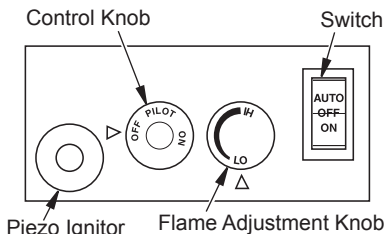

Figure 18 - Control Knob and Ignitor Button Location, Manual Controlled
4. Press in and turn control knob clockwise to the OFF position (see Figure 18).
5. Wait five (5) minutes to clear out any gas. Then smell for gas, including near the floor. If you smell gas, STOP! Follow "B" in the safety information in column 1, page 16. If you don't smell gas, go to the next step.
6. Press in and turn control knob counterclockwise to the PILOT position. Press in control knob for five (5) seconds (see Figure 18).